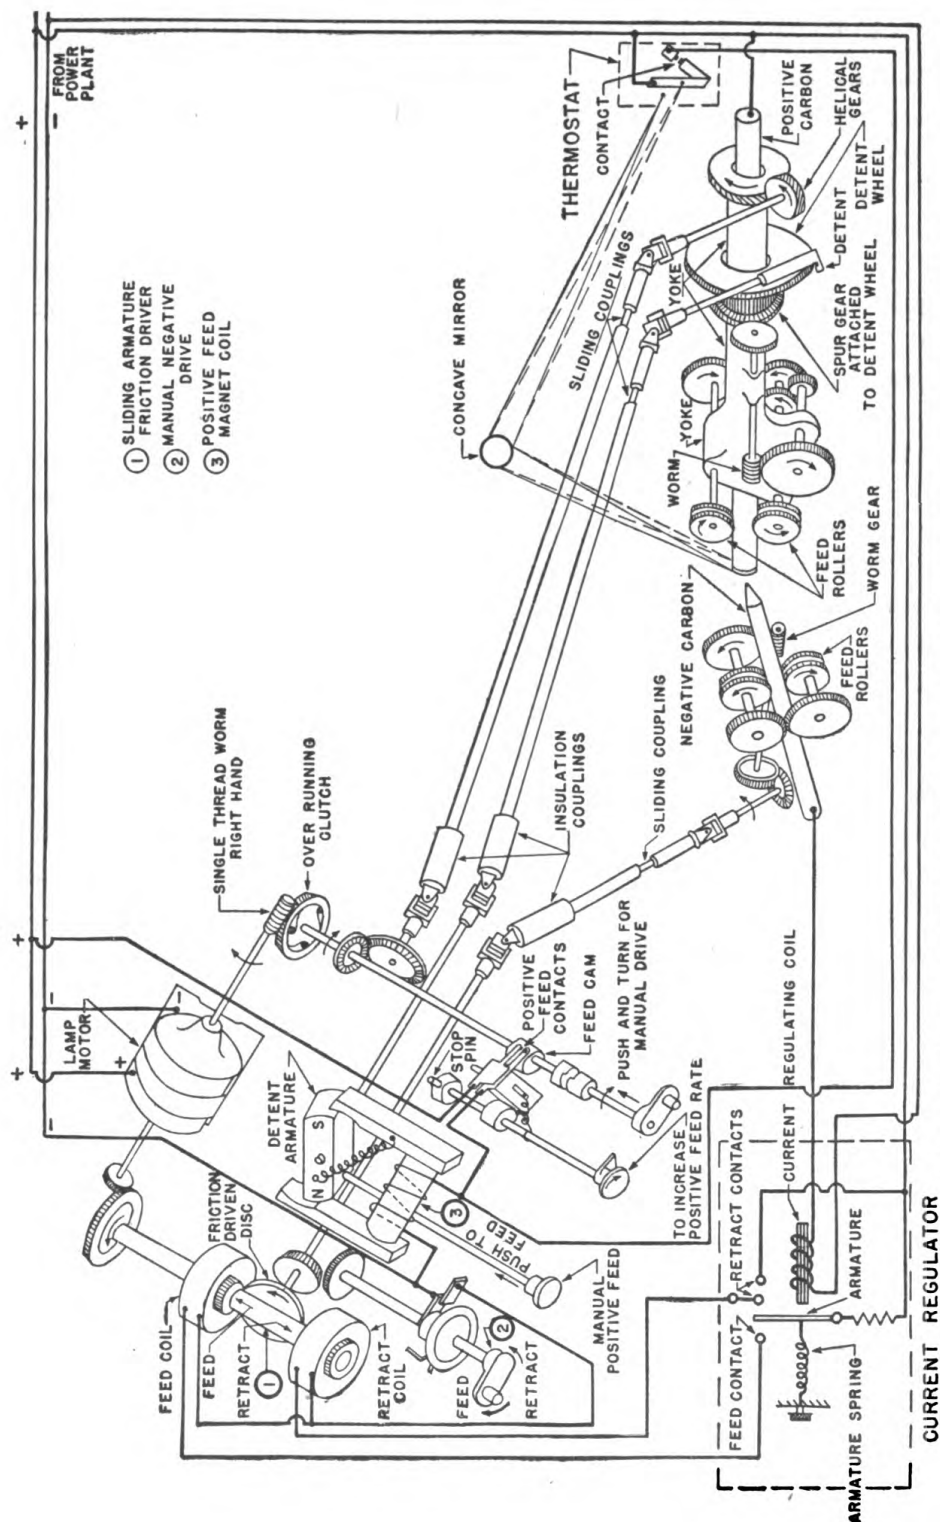

FIGURE 141.—Schematic diagram of General Electric lamp control mechanism and lamp mechanism.
(1) *Positive feed.*—See figure 141. The lamp motor, through a set of gearing and shafts, drives a helical gear on the positive head, which transmits a constant rotary motion to the yoke and positive carbon. When the detent is not engaged with the detent gear, the entire assembly including the spur gear rotates with the yoke. When the detent is engaged with the detent gear, the spur gear attached to the detent wheel is kept from rotating, causing the outside gear to rotate around the attached spur gear, thereby causing the feed rollers, through a worm drive, to feed the positive carbon forward.